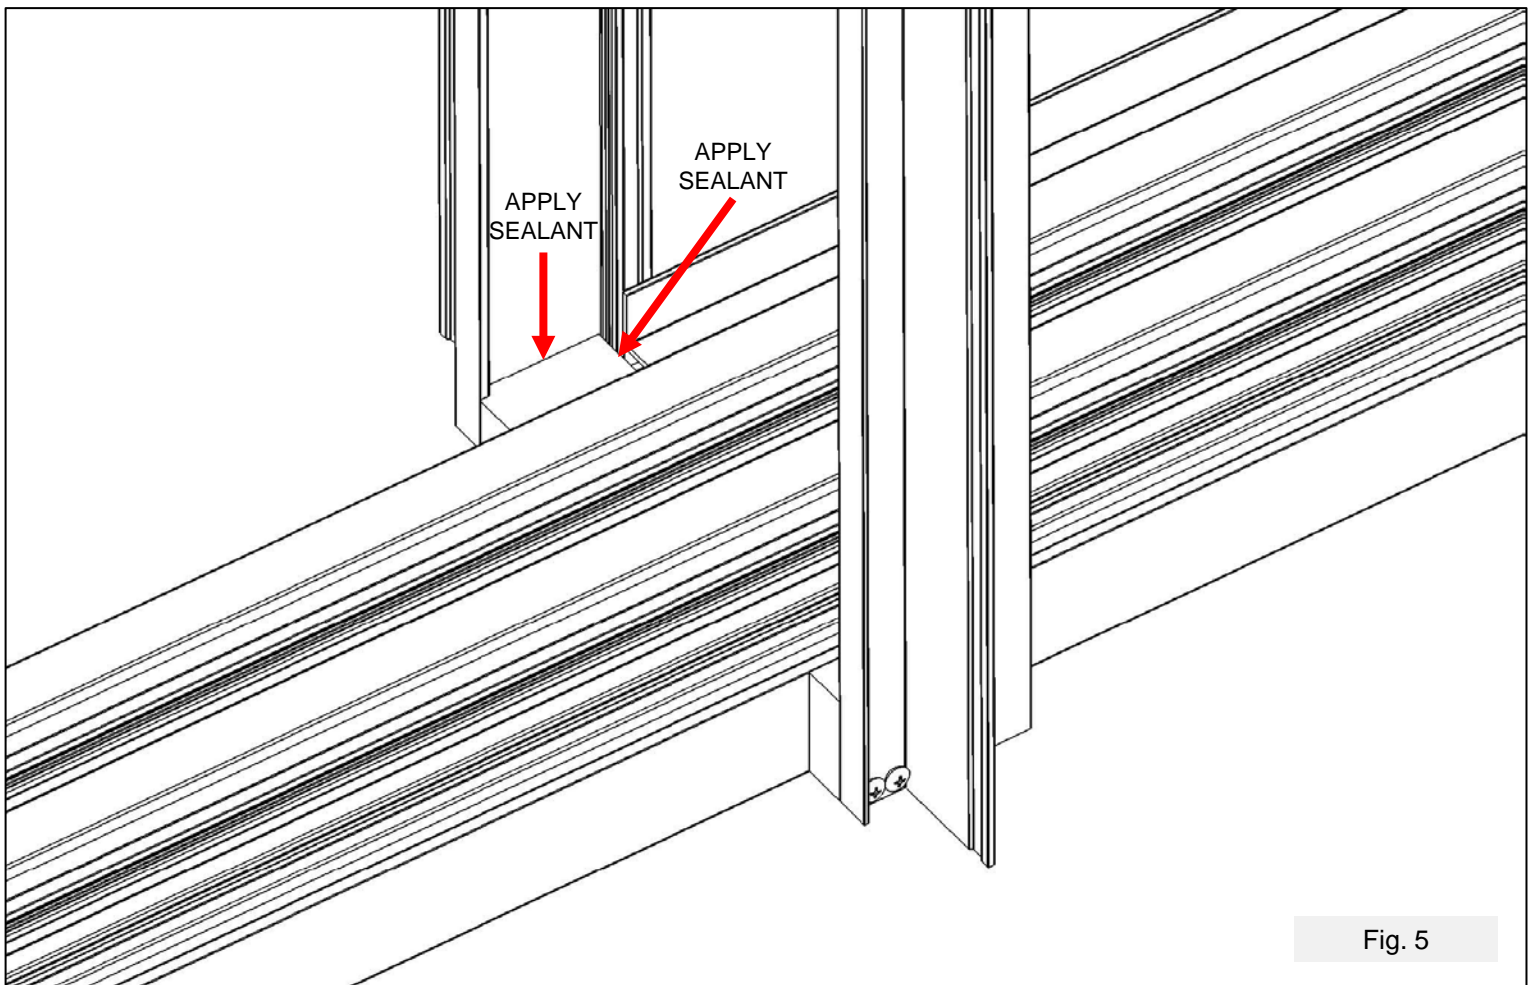

Fig. 5
12. Apply silicone sealant around perimeter of pocket post and pocket spacer, as well as between the exterior sill dam and the pocket post spacer (see Fig. 5 ).